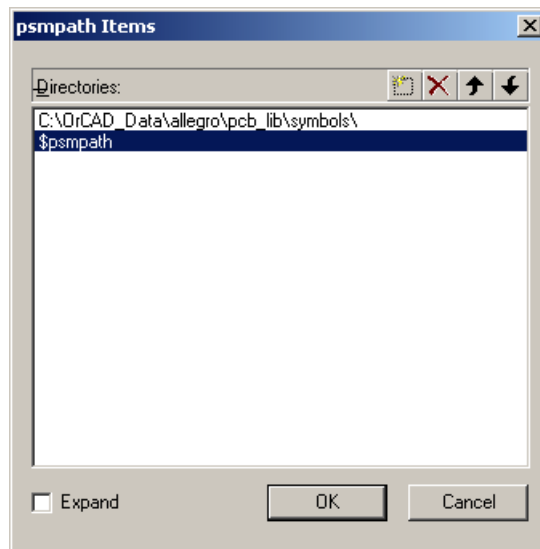

Figure 6. Completed dialogue box for setting up psmpath. Your directory path will be different.
5. Navigate to the Elecapps drive (Q), find the allegro directory, then pcb_lib and finally symbols. Click OK to select this directory.
6. Next we must tell PCB Editor to look in our local directory before the default libraries, denoted by \$psmpath. Click on \$psmpath followed by the Move Down arrow. The psmppath Items box should now look like figure 6 on the next page except that your directories are different (my computer is not on the same network). Click OK.